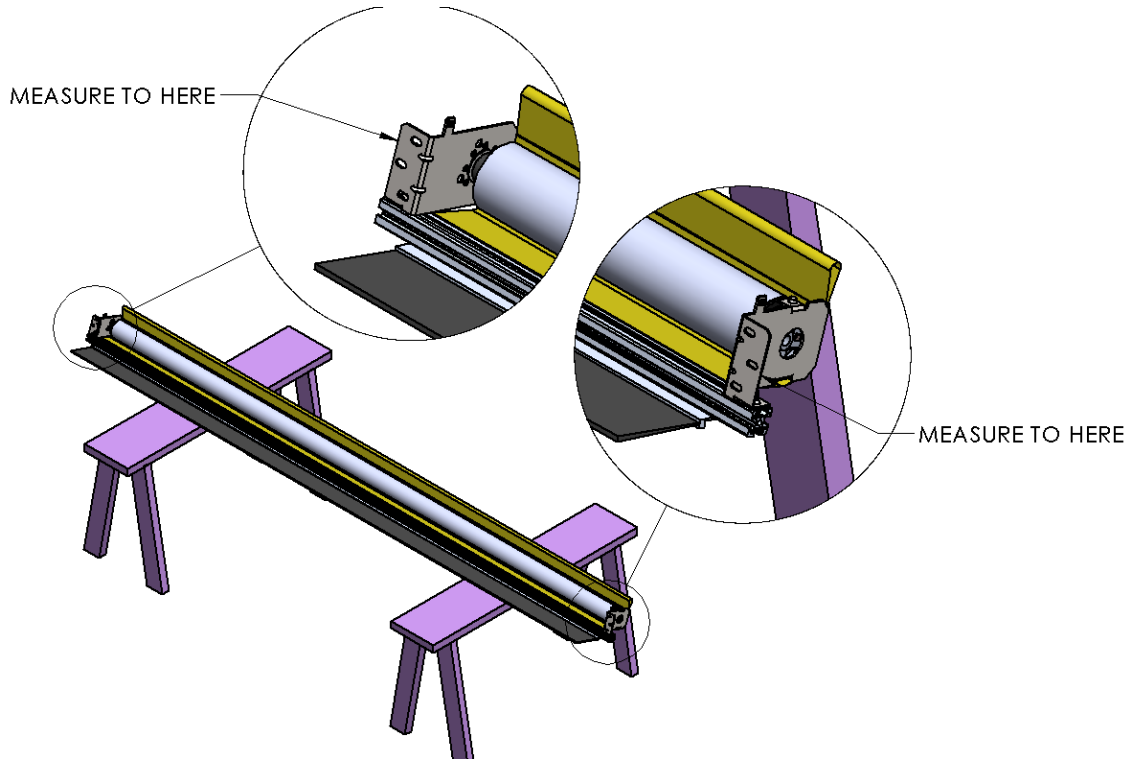

Figure 2 MEASURE DOOR WIDTH
2. Place the G1 Door roll Header Assembly across a safe and level work surface and rotate the roll assembly frame so that the Header Bracket Mounting flanges are facing upward. (Figure 2 MEASURE DOOR WIDTH).
3. Measure the total width of the whole roll assembly from outermost edge of one Header Bracket's Mounting flange to the outermost edge of the opposite side. (Figure 2 MEASURE DOOR WIDTH)